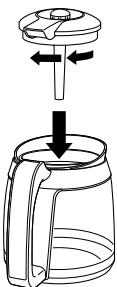
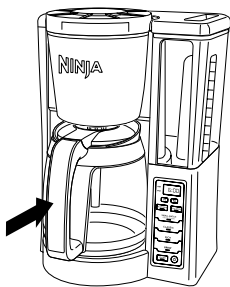

Fig. 4
Fig. 5
- 5 Place the brew-through lid on the carafe and turn clockwise to lock into place (Fig. 4). Then place carafe under the brew basket (Fig. 5).